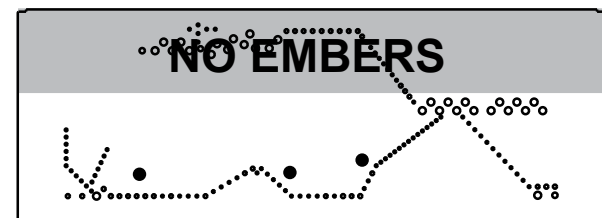

Figure 9.3 Placement of Embers
- Embers **CANNOT** be placed in the shaded area as shown in Figure 9.3.